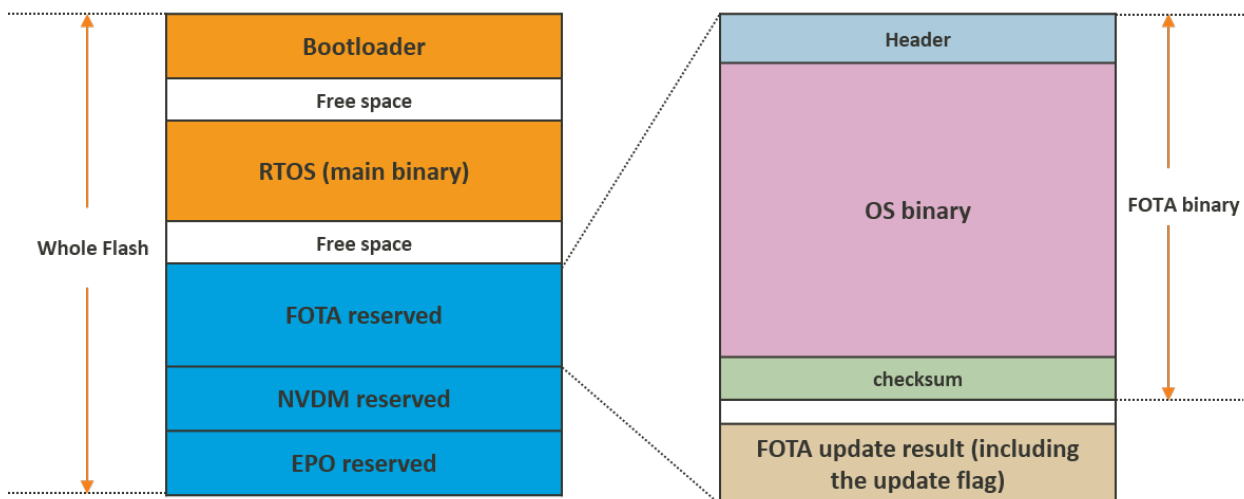

Figure 17. FOTA binary reserved memory
There is a power failure protection for the OS binary (main binary) update. Before the OS binary update, the **Update Agent** writes a marker to the flash, as shown in Figure 17. After the OS binary update is complete, the marker is cleared from the flash. If power failure occurred during the OS binary update, the **Update Agent** checks marker to restart the process.
- 4) A new COM device should appear under **Ports (COM & LPT)** in Device Manager, as shown in Figure 17. FOTA binary reserved memory 19. Note the COMx port number of the **USB Serial Port**, this information is needed to complete configuration of PuTTY.